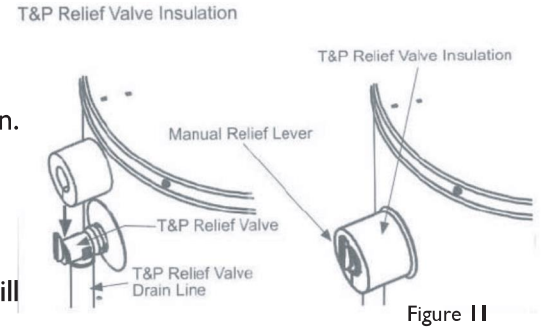

Figure 11
Manually operate the temperature and pressure relief valve at least once a year (Figure 11). To prevent water damage, discharge line must terminate at an adequate drain. (Figure 4).
3. Spread this slit open and slip it over the T&P Relief Valve (See Figure 11). Apply gentle pressure to the insulation to ensure it is fully seated on the T&P Relief Valve. Once sealed secure the insulation with a section of tape. **IMPORTANT:** The insulation or tape should not block or cover the T&P Relief Valve drain opening. Also the insulation or tape should not block or cover the T&P Relief Valve drain opening. Also the insulation or tape should not block or hinder access to the T&P Relief Valve manual relief lever.